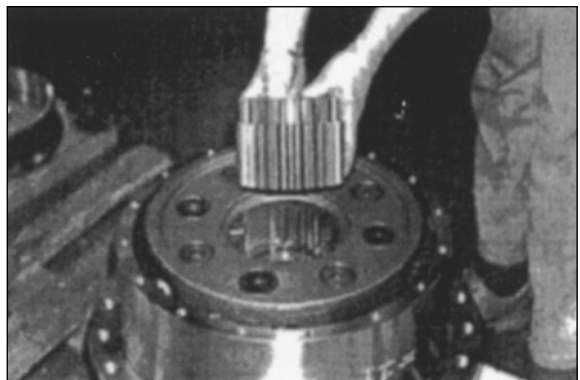

Figure 84
22. Remove third sun gear. Figure 84.